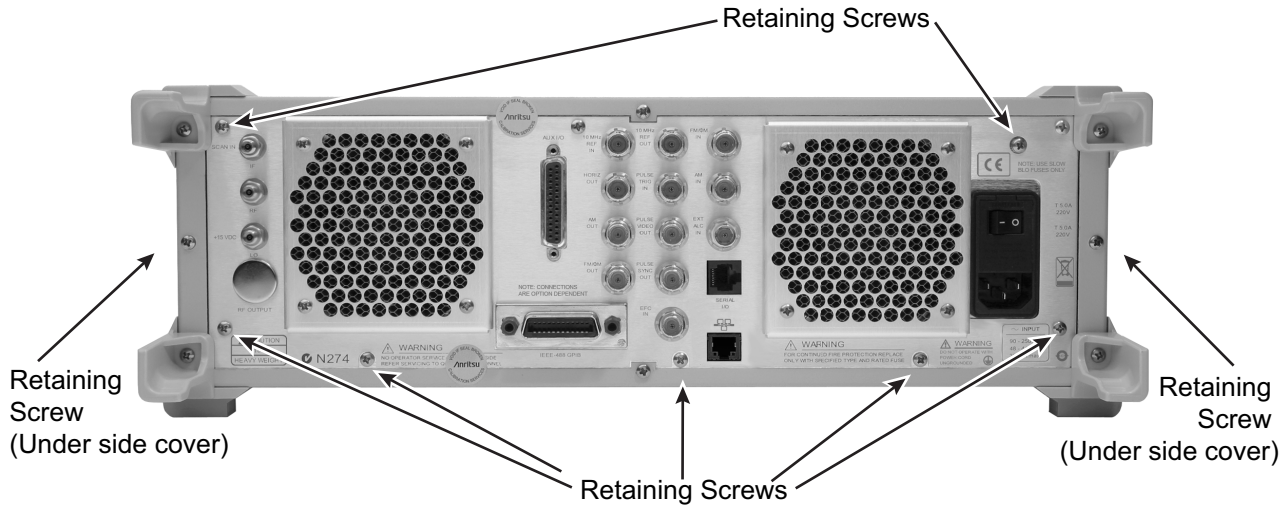

Figure 7-13. Rear Panel Retaining Screw Locations
2. Locate the screws that secure the rear panel to the chassis and power supply (see Figure 7-13). Use a Phillips screw driver to remove the screws (retain the screws). The last screw is found on the side panel.